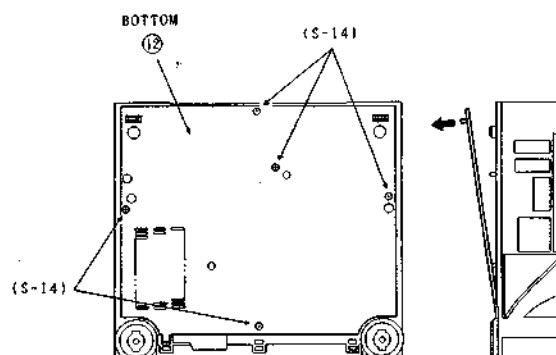

Fig. 12
- Unscrew the 5 screws (Fig. 12).